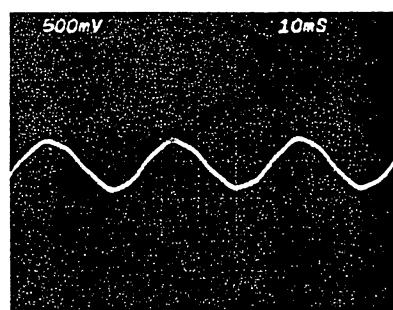
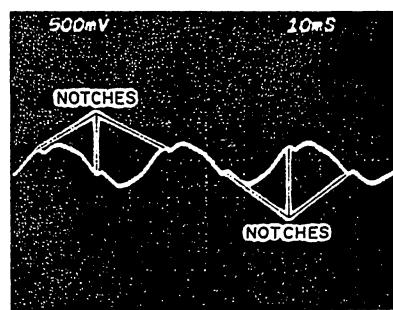

Fig. 4-18
Fig. 4-19
- 4) If notches appear on the waveform on the oscilloscope as shown Fig. 4-19, adjust VR 3(ADC MSB) on the VOICE PCB, so that the correct sinewave is appeared as shown Fig. 4-18.